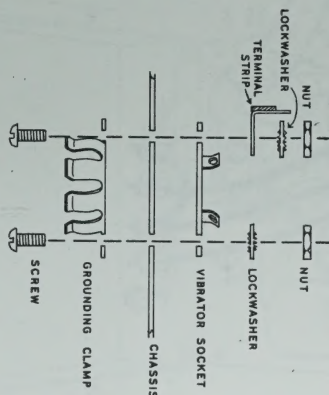

Figure 2
- (4) Mount the 4-pin vibrator socket and vibrator grounding clamp at B as shown in Figure 2. Use 6-32 x 3/4" BH screws and mount terminal strip E on the mounting screw nearest socket A. Note that both water sockets mount on the same side of the chassis, while the grounding clamp mounts on the reverse side (top). See Pictorial 1.
- (5) Insert the 1/2" rubber grommet at F.